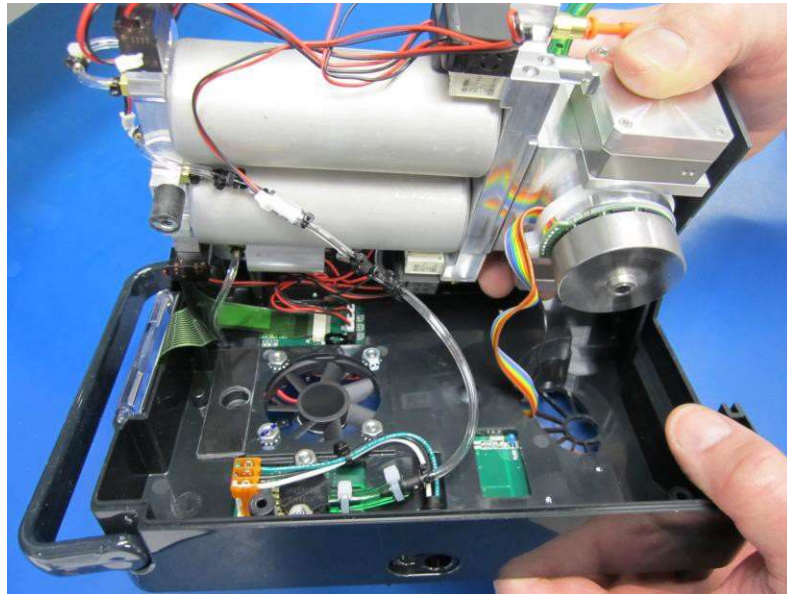

Figure 5.13
- Carefully remove the complete PSA assembly from the center housing by pulling it upwards and slipping compressor moxex connector through center section. (See Figure 5.13.)